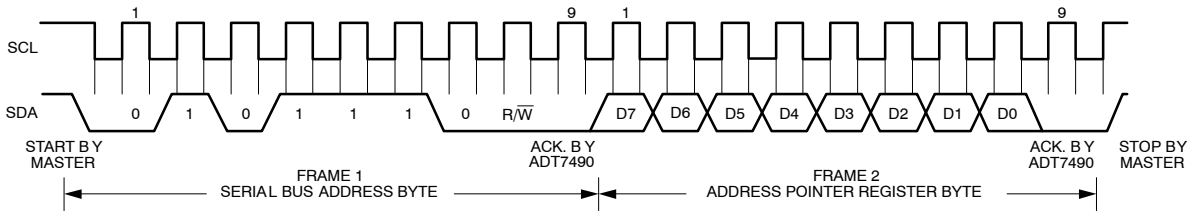

Figure 5. Writing to the Address Pointer Register Only
- If the NCT7491 address pointer register value is unknown or not the desired value, it must first be set to the correct value before data can be read from the desired data register. This is done by performing a write to the NCT7491 as before, but only the data byte containing the register address is sent because no data is written to the register. This is shown in Figure 5.